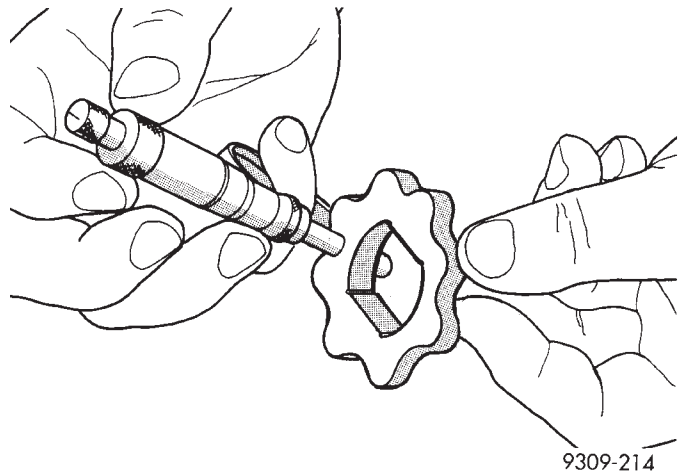

Fig. 80 Measuring Inner Rotor Thickness
(6) If inner rotor measures 7.64 mm (0.301 in.) or less replace inner rotor (Fig. 80).